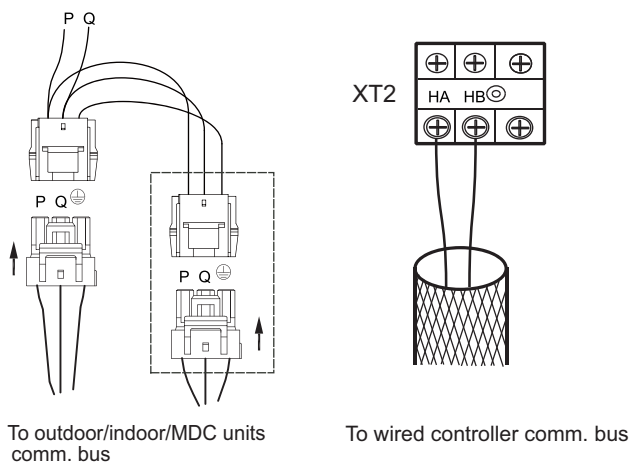
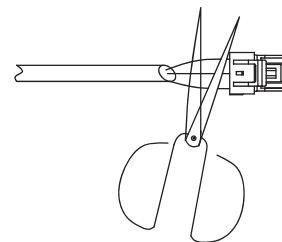

Fig. 6 —Communication Wire Connection
Fig. 7 —Shearing Outdoor Connector
See Fig. 6 and Fig. 7.
1. Cut the connector on the outdoor unit side as shown in Fig. 7.